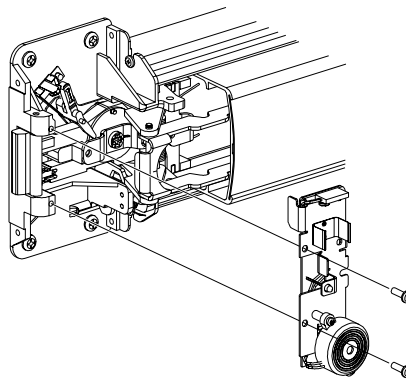
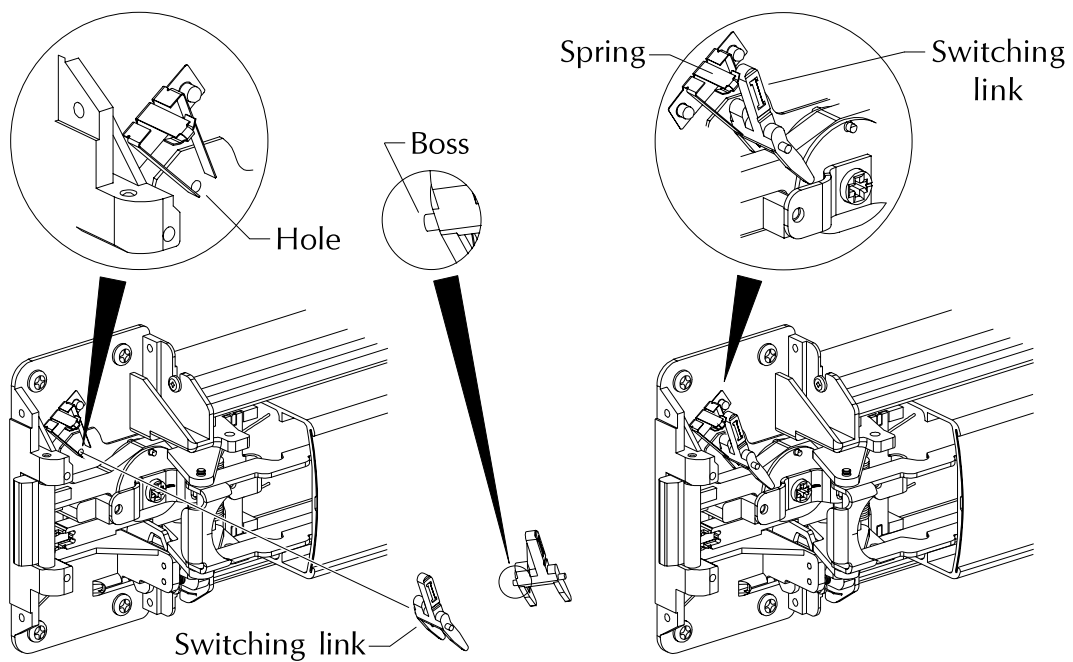

Figure 5
Figure 6. Boss on bottom of switching link fits into hole. Switching link aligns with spring as shown.
- 5 Remove PC board (Figure 5). If switching link comes loose, replace as shown in Figure 6.